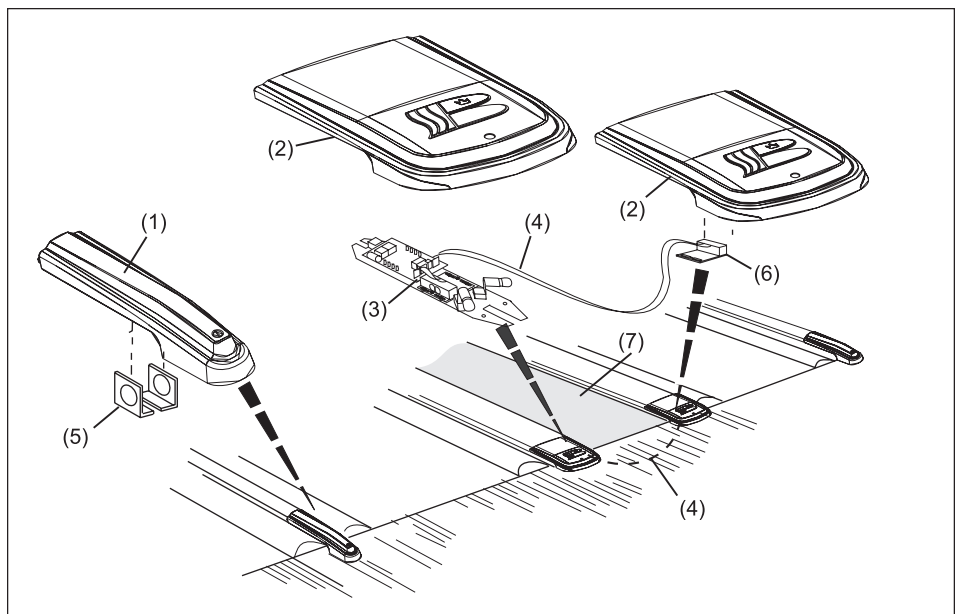

Figure 12.
3. Connect the 120" long sensor cable assembly part number 53-861069-002 to the Tel-E-Foul assembly printed circuit board, route cable under the lane and connect to remote sensor. Refer to *Figure 12*.